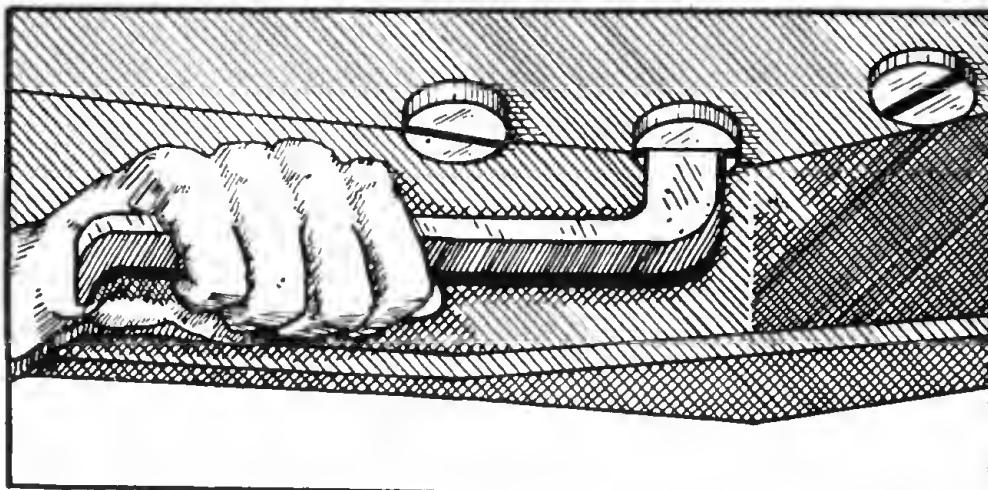

Figure 16. Offset screw driver and its application.
(3) An *offset screw driver* is used to install or adjust screws which cannot be reached by a common screw driver. On each end it has a blade bent at right angles to the shank. The edge of one blade is parallel to the shank; the other is set at 90° to the shank. (See fig. 16.) It is not a convenient tool to use, but under certain conditions it is indispensable.
(4) A *nonmagnetic screw driver* is used to compensate a compass. It is shaped like a common screw driver, but is made with a brass blade so as to have no magnetic effect on the compass.
(5) The *spiral-ratchet screw driver* is used when a large number of screws must be installed or removed. It is so made that when the handle